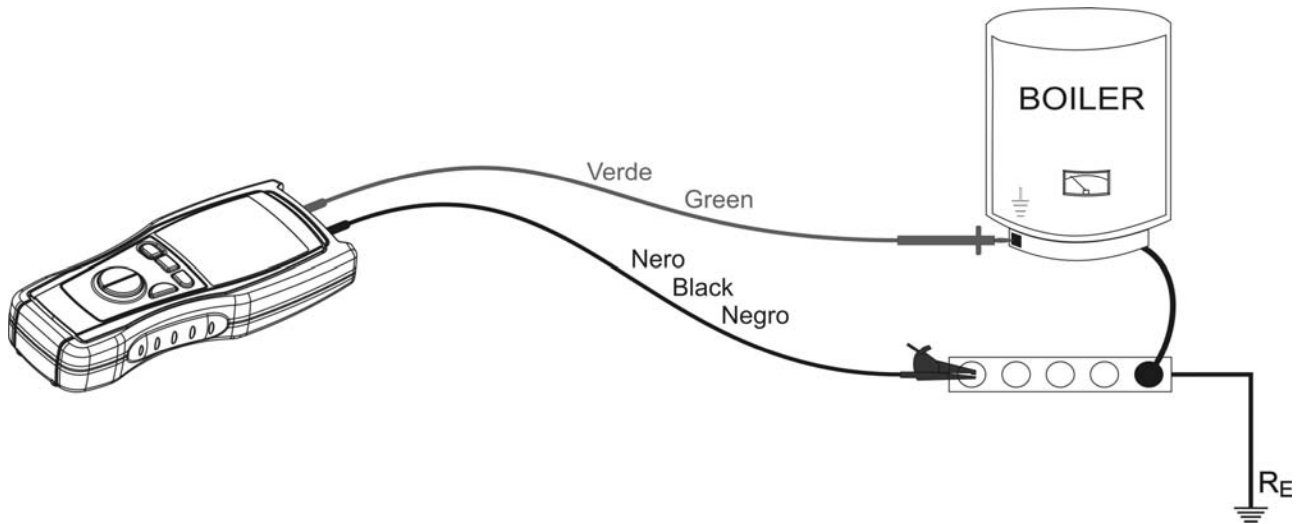

Fig. 8: Connection of the instrument's terminals during Ω 0.2A test
7. Connect the instrument's terminals to the ends of the conductor on which the continuity test must be performed (see Fig. 8)